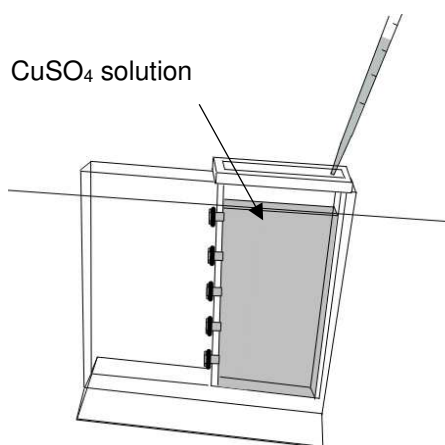

Fig. 5 Putting copper sulfate solution in tank
2. Insert the smaller tank into the larger one, and then carefully pour copper sulfate solution into the smaller tank with a pipette or a dropper until all the five holes are fully submerged in the solution (Fig. 5). Using a plastic tray for this procedure is recommended for safety.